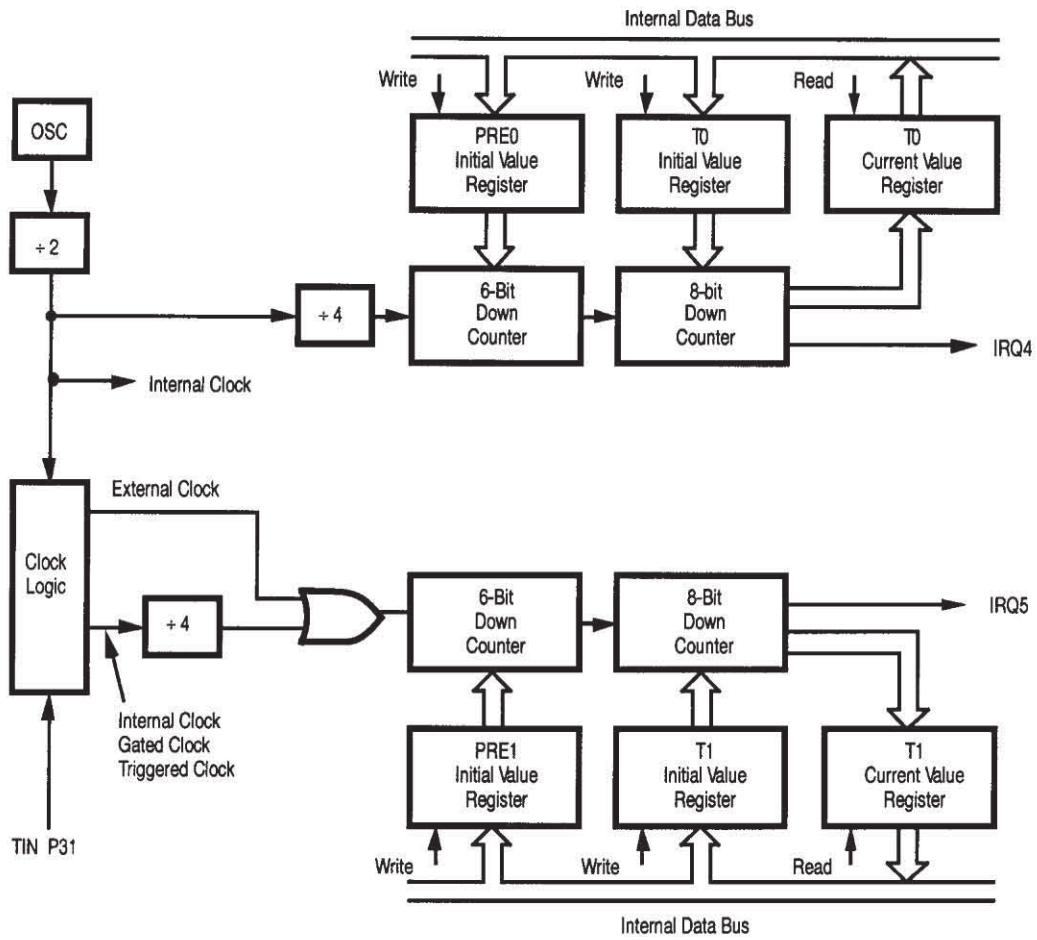

Figure 14. Counter/Timers Block Diagram
**Counter/Timer.** There are two 8-bit programmable counter/timers (T0 and T1), each driven by its 6-bit programmable prescaler. The T1 prescaler is driven by internal or external clock sources. (Figure 14).